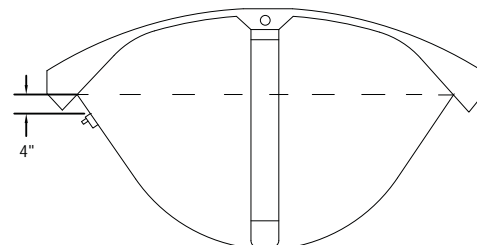

Figure 2
- 1) See Figure 2.** Layout the mounting plate (1) positions on the passenger side of tub. Mark a location for the front and rear plates, 3" from each end of the tub and 4" down from the bottom of tub side rail.